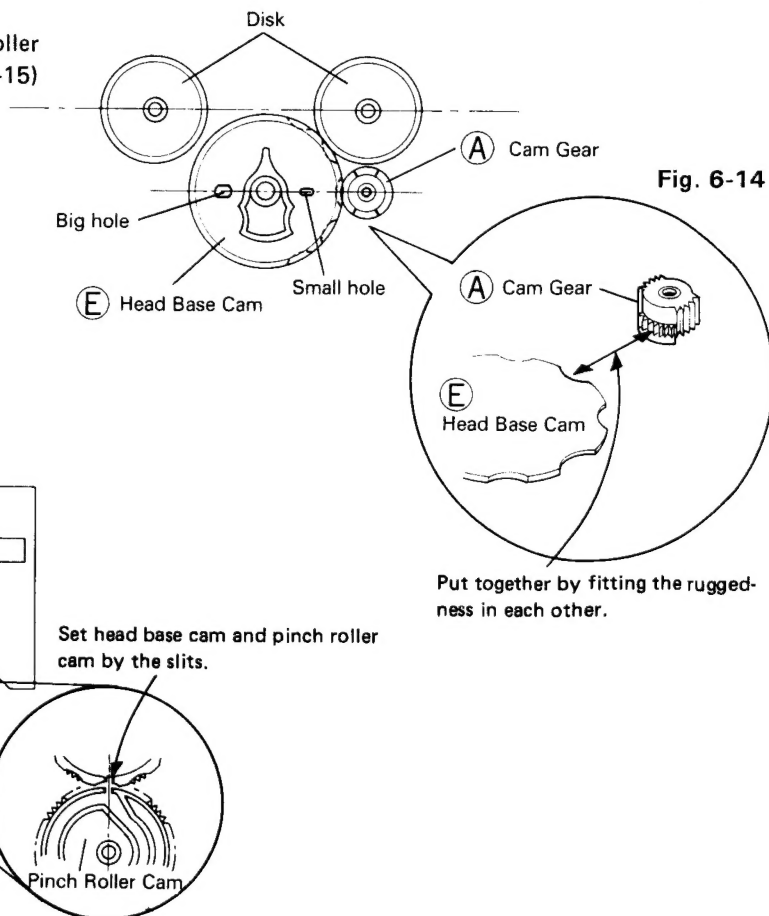

Fig. 6-14
- c) When putting back the head base cam **E** , pay careful attention to positioning it so that big and small concaves are paralleled with the disk. (Fig. 6-14)